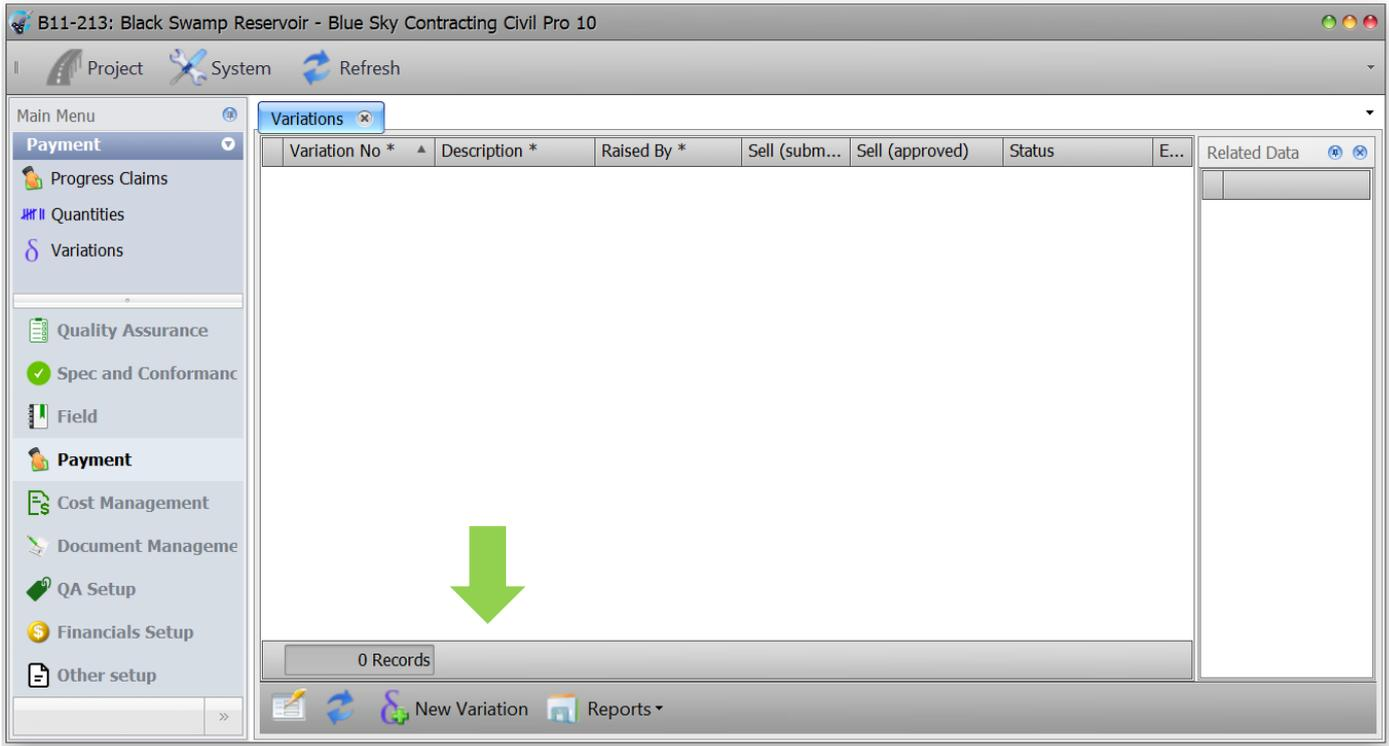

Figure 89 New variation button
2. The Variation register will now appear. At the bottom of the screen click on *New Variation* (Figure 89).